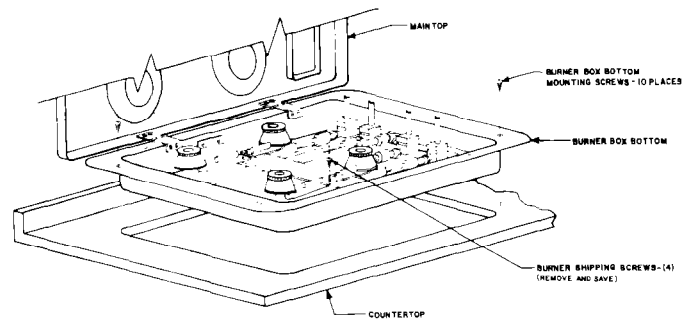

Figure 4
5. Remove four (4) shipping screws from burners and use them with the six (6) additional screws (from same plastic bag in which hinges were packed) to attach burner box flanges to counter top, as shown in Fig. 4.